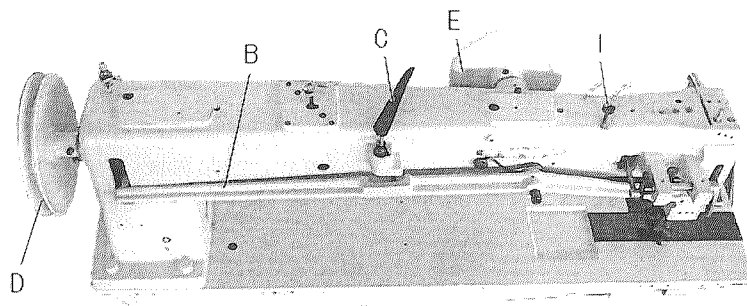

Fig.31
1. Turn the machine pulley or hand wheel ( Fig. 31 D & E ) until the top of the opener is located at the distance from the needle plate.